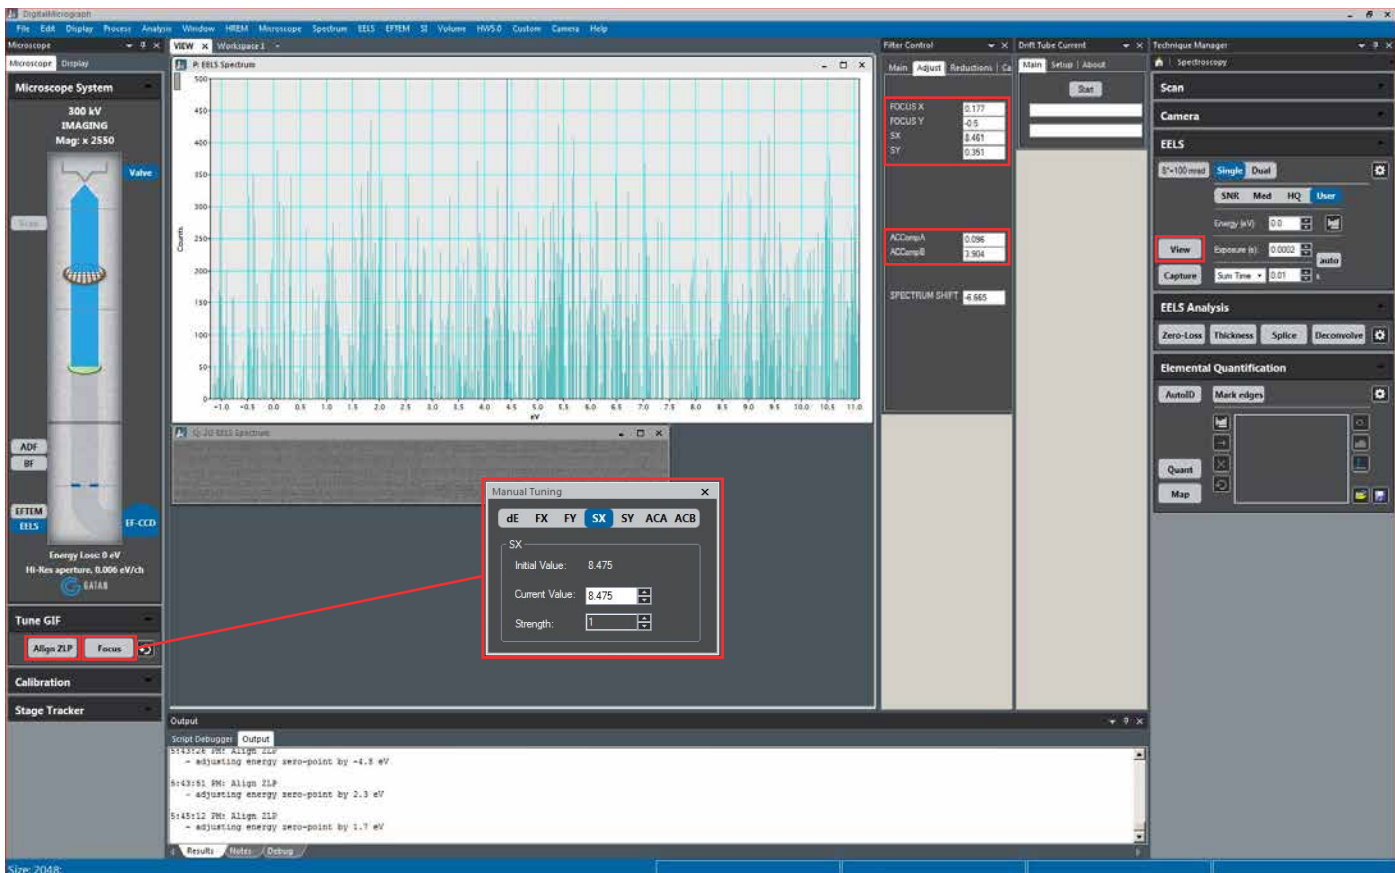

Figure 4. Screenshots showing the functionalities in Digital micrograph to be used for X-FEG UltiMono.
- Center ZLP up to a high dispersion (e.g., 0.005 eV/ch) in EELS mode, with a suitable exposure time. Select the smallest entrance aperture to avoid high order aberrations and center ZLP on camera center by clicking **Align ZLP** (Figure 4).
- Coarsely adjust FX, FY, SX, SY, if necessary. Click **Focus X**, **Focus Y**, **SX**, **SY** under the drop menu **Adjust** tab of the **Filter Control** panel to coarsely adjust GIF focus and stigmatism in **DM** (Figure 4). Note that ultimate fine adjustments can be done by clicking **Focus**, accessing the **Manual Tuning** window on the left side of the **Tune GIF** panel, and choosing a proper strength of FX, FY, SX, SY per click (Figure 4).